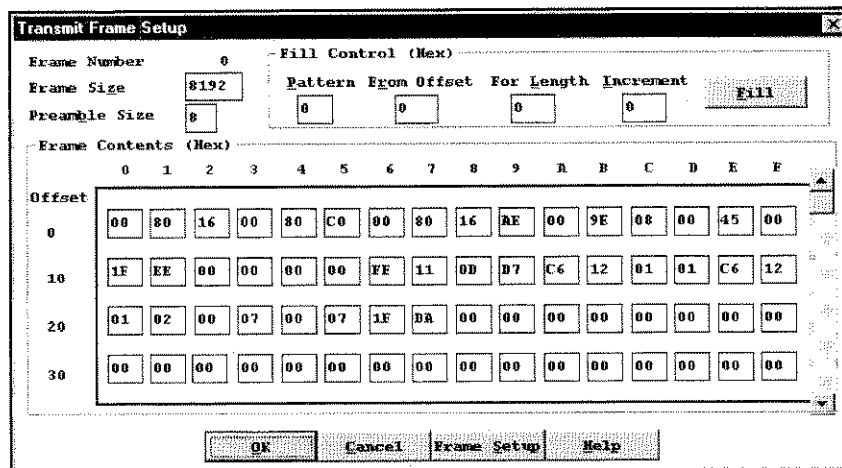

Figure 8-4. Transmit Frame Setup dialog box
You can use the Transmit Frame Setup dialog box (Figure 8-4) and the Frame Setup Wizard to create a new frame. From the Transmit Frame Setup dialog box, you can define a frame between 16 and 10,240 bytes long, specify its preamble size, and use the Fill Control options to specify a hexadecimal pattern to be replicated within the frame.
You can select or modify the size of a transmit frame in the **Frame Size** box on the Transmit Frame Setup dialog box (Figure 8-4). You enter the frame size (in bytes) using a decimal value between 16 and 10240 bytes. The frame size includes the FCS bytes.
You can use the **Fill Control** box on the Transmit Frame Setup dialog box (Figure 8-4) to quickly enter the same hexadecimal data pattern into multiple bytes of the frame. You can also increase the value of each subsequent byte (in the specified range) by an incremental value. All values are specified in hexadecimal format.
1. From the Transmit Frame Setup dialog box (Figure 8-4), click **Frame Setup**.
The Transmit Frame Setup dialog box is displayed (Figure 8-4), and you can edit the frame contents.